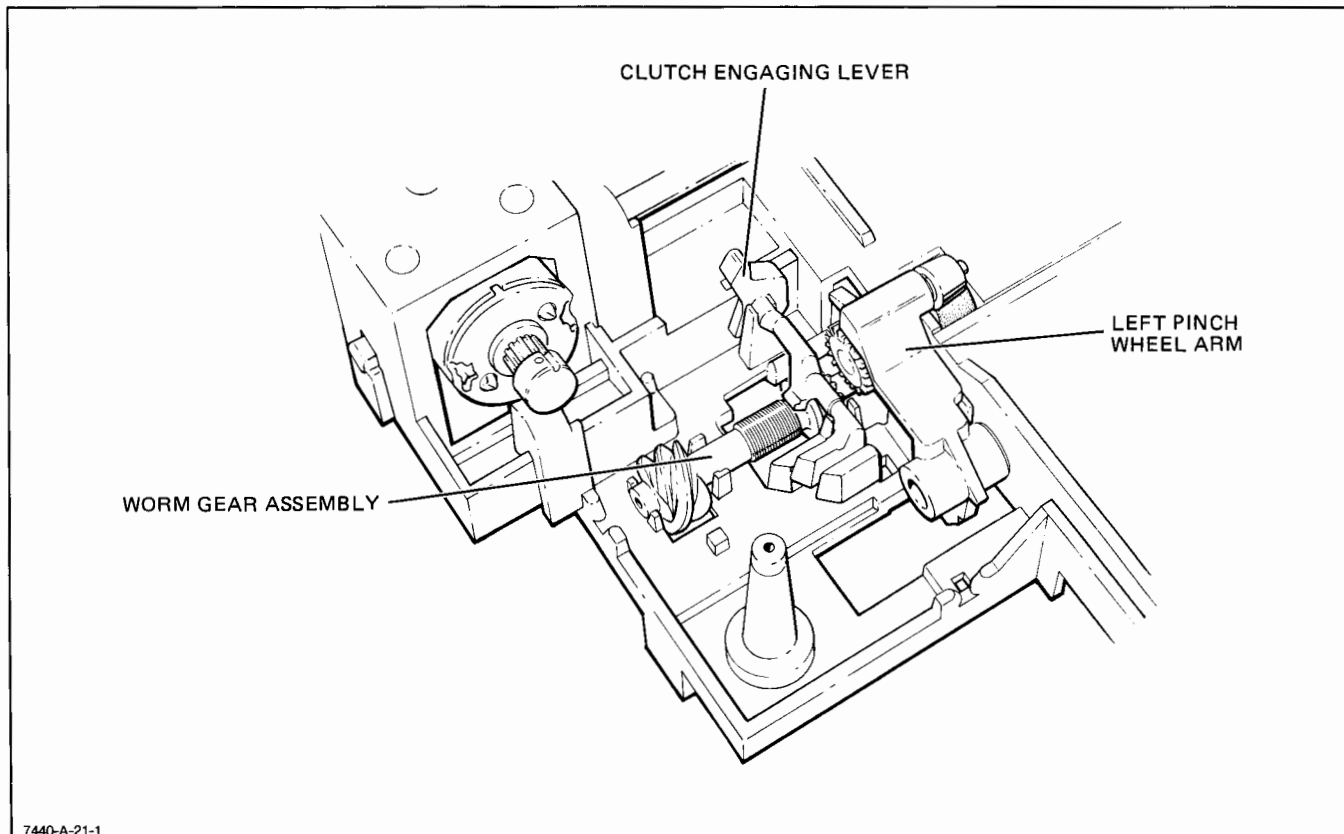

Figure 6-12. Left Pinch Wheel Arm Removal, Detail E
- m. Remove the left pinch wheel arm tension spring. See Figure 6-12, Detail B.